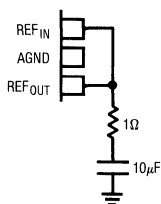
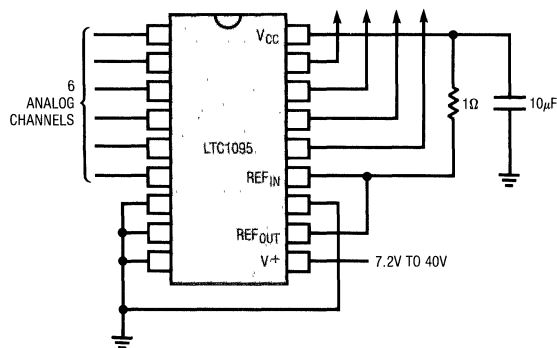

Figure 15. Suggested Circuit for REF_{IN} Tied to REF_{OUT}
Figure 16. LTC1095 Single Supply Operation
The LTC1095 contains an internal precision 5V buried zener reference which is capable of supplying the full scale reference for the converter when connected as shown in Figure 15. With its 10mA output current the reference can also power the A/D and other external circuitry to provide a TTL input/TTL output system running off a single 7.2V–40V supply (see Figure 16).
3. It is recommended that REF_{IN} be tied to REF_{OUT} as shown in Figure 15.